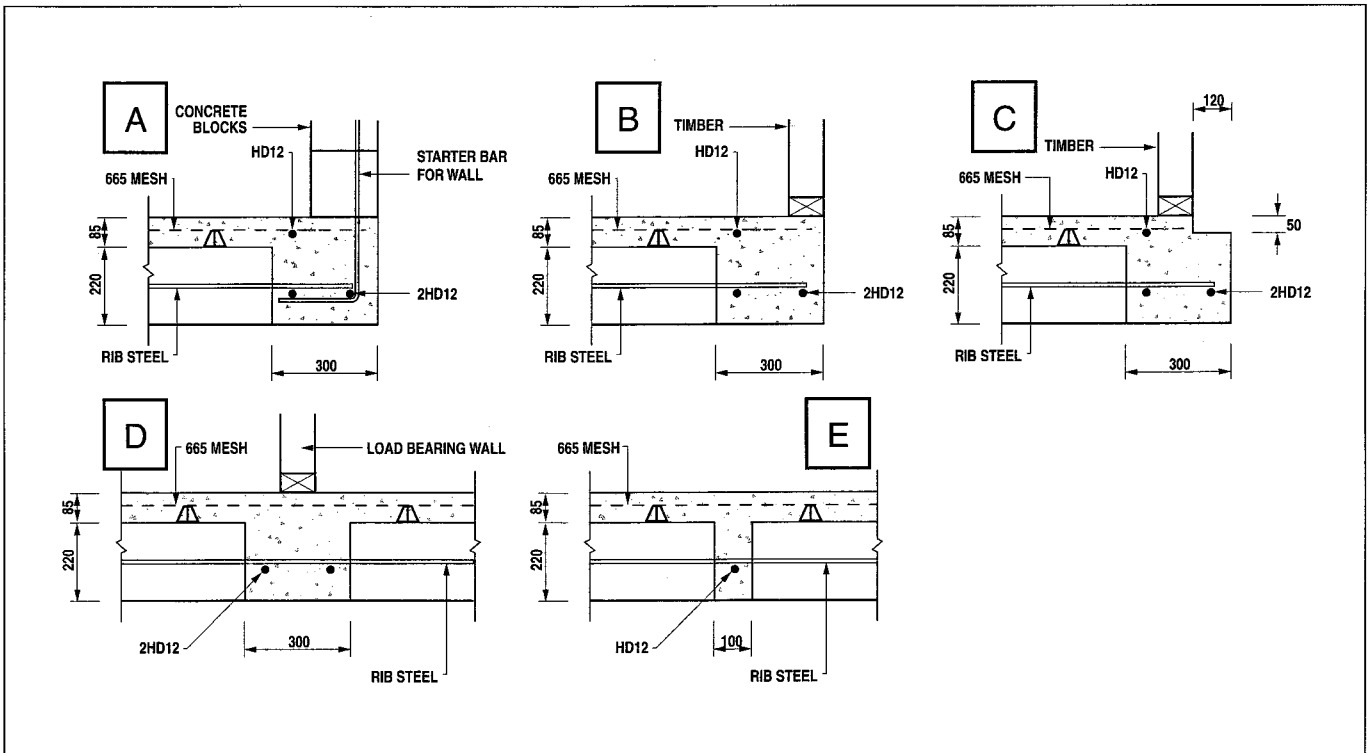

Figure 4 Standard RibRaft Construction Details
Edge beams around the perimeter of the floor slab shall be 300mm to provide bearing capacity for external load bearing walls, and contain 2-HD12 bars (Grade 430) as bottom steel and 1-HD12 bar (Grade 430) in the top. This top bar shall be tied to the underside of the reinforcement mesh. Refer Figure 4, below for construction details. The edge beam shall be rebated for brick veneers where necessary as shown in Figure 4(C).
Each standard internal rib shall be 100mm wide and shall contain 1-HD12 steel bar (Grade 430) held in place by a Firth spacer. For all loadbearing walls, the pods shall be cut to create a 300mm wide rib directly under the loadbearing wall, with 2-HD12 (Grade 430) steel bars as bottom steel. Figures 4(D) & (E) show